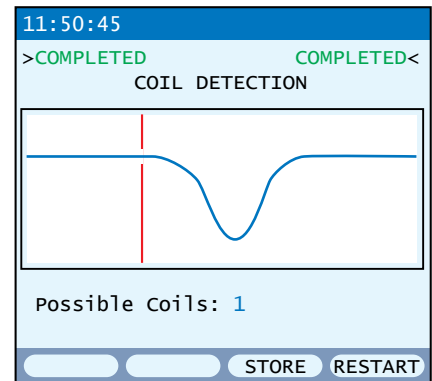

Figure 58 Coil Detection Screen
4. Refer to the graph in the screen shown in Figure 58. The plot measures impedance (y-axis) by frequency (x-axis).
- The number of "Possible Coils" is displayed at the bottom of the screen. In Figure 58, there is one dip in the graph indicating a coil.